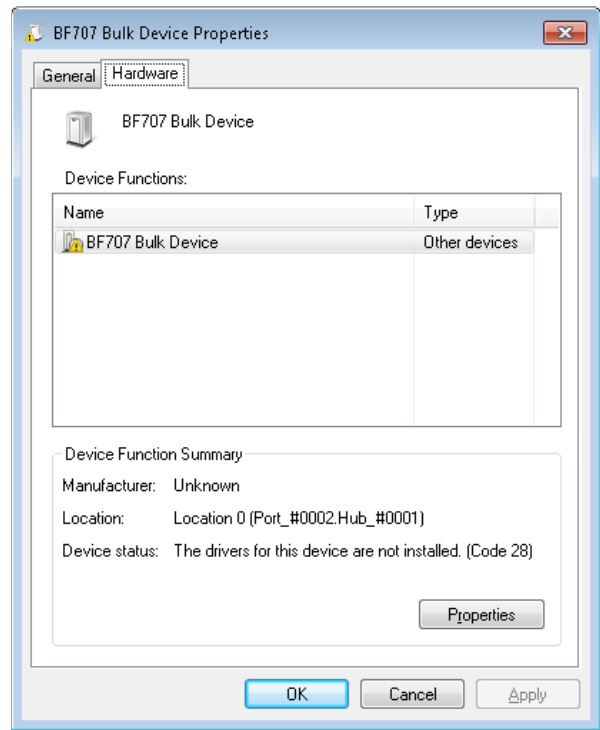

Figure 8. Hardware Tab
2. Click **Properties** in the **Hardware** tab (see Figure 8).